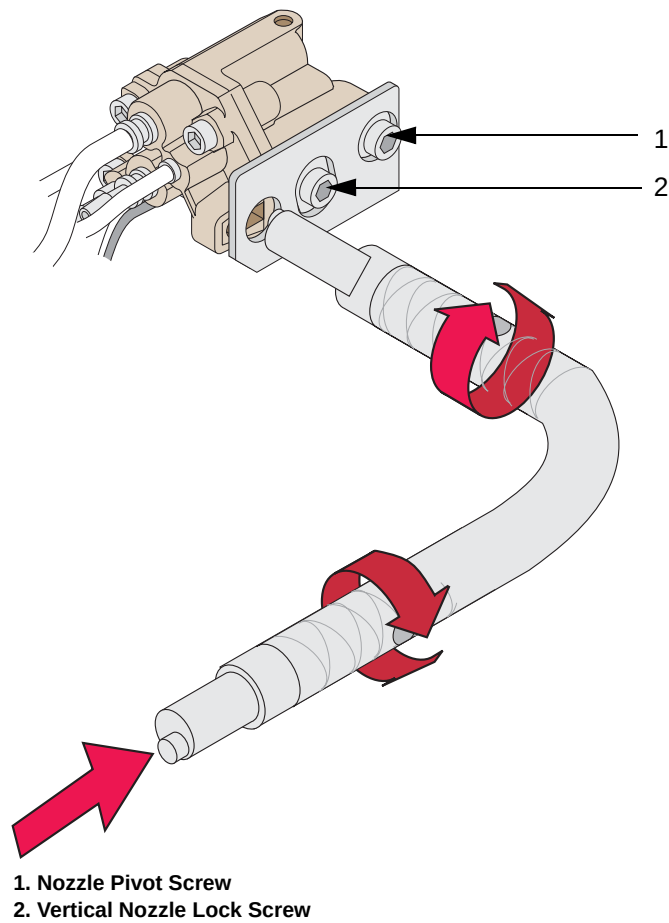

Figure 6-20: Vertical Adjustment
- a. Turn the vertical nozzle lock screw (Item 2, Figure 6-20 on page 6-22) half a turn to the left, this turn releases the vertical nozzle lock.
- e. Tighten the vertical nozzle lock screw and the nozzle pivot screw (Item 1, Figure 6-20 on page 6-22) to engage the vertical nozzle lock.